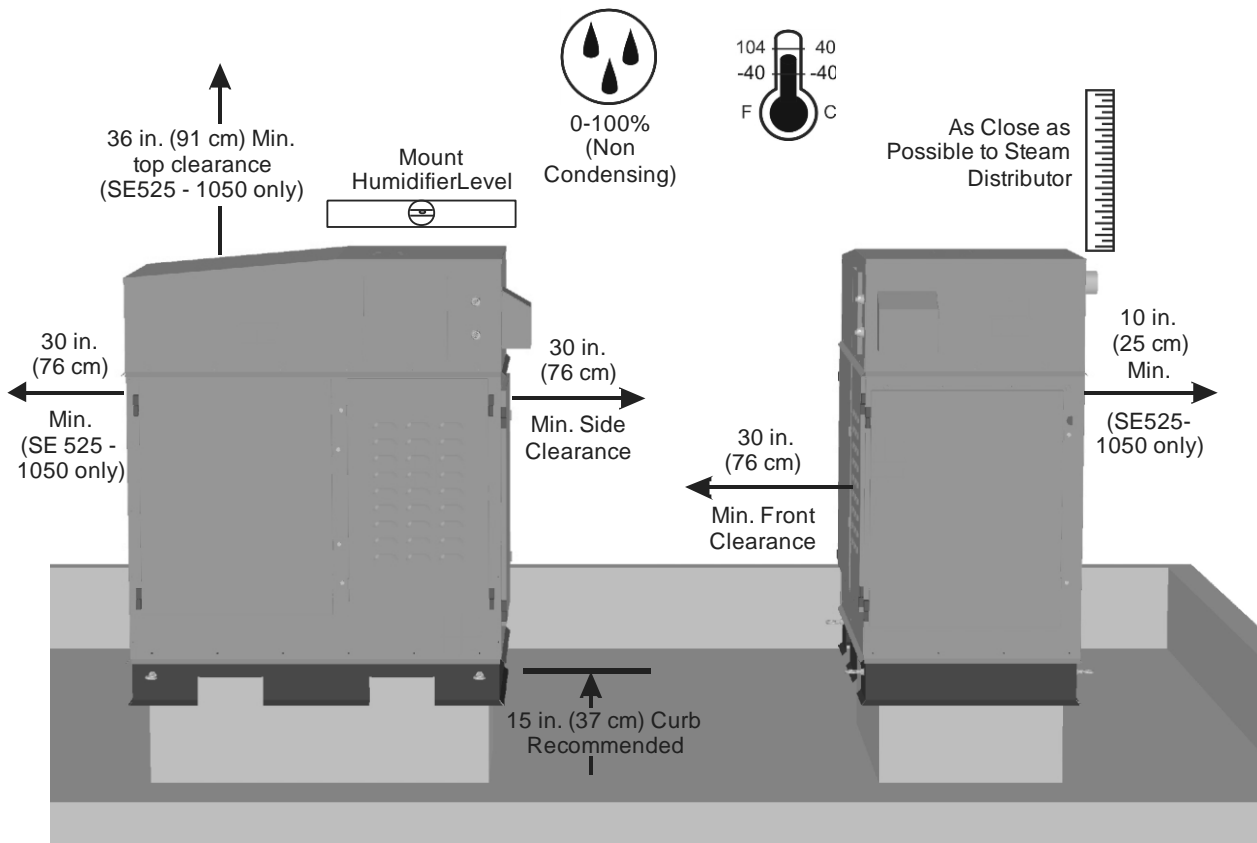

Figure 4: Installation Location / Clearance
- Refer to Figure 4: Installation Location / Clearance for minimum clearance requirements and to Table 3: SETC Outdoor Specifications for minimum structural requirements. Ensure mounting surface is strong enough to support the full weight of the humidifier and accessories.